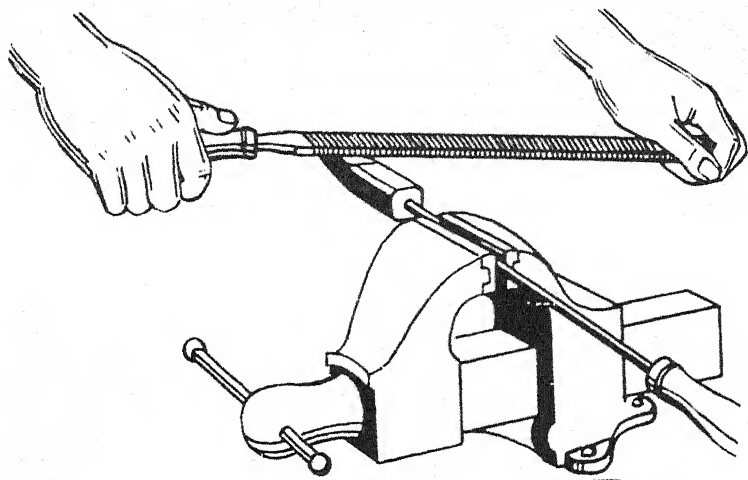

Figure 95.— Filing a copper.
2. Clamp the copper in a vise as shown in figure 95.